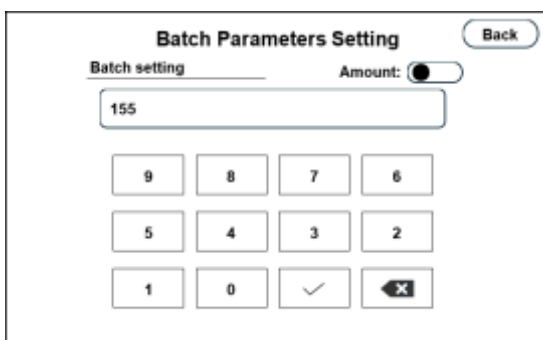
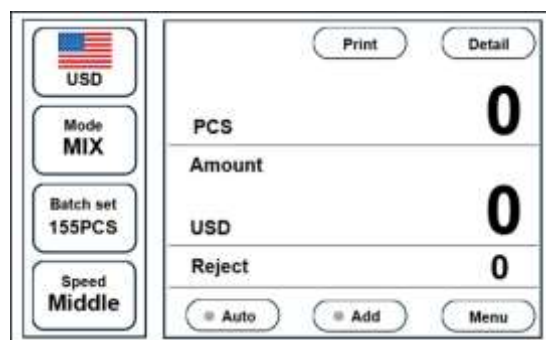

Figure 30
Figure 31
2) Touch the batch set area of the main interface for 1-2 seconds to enter the customized batch parameters setting interface, as shown in Figure 30 below, first click the “✕” key to clear the original value, then click the numeric keypad below to enter the value within “5~200”, then click the bottom of the “√” key to save the batch setting. It will automatically switch back to the main interface at the same time. As shown in Figure 31 below, the batch quantity is set to 155. Note: When the batch quantity is over 200, the machine cannot save it, the default batch quantity is 200.